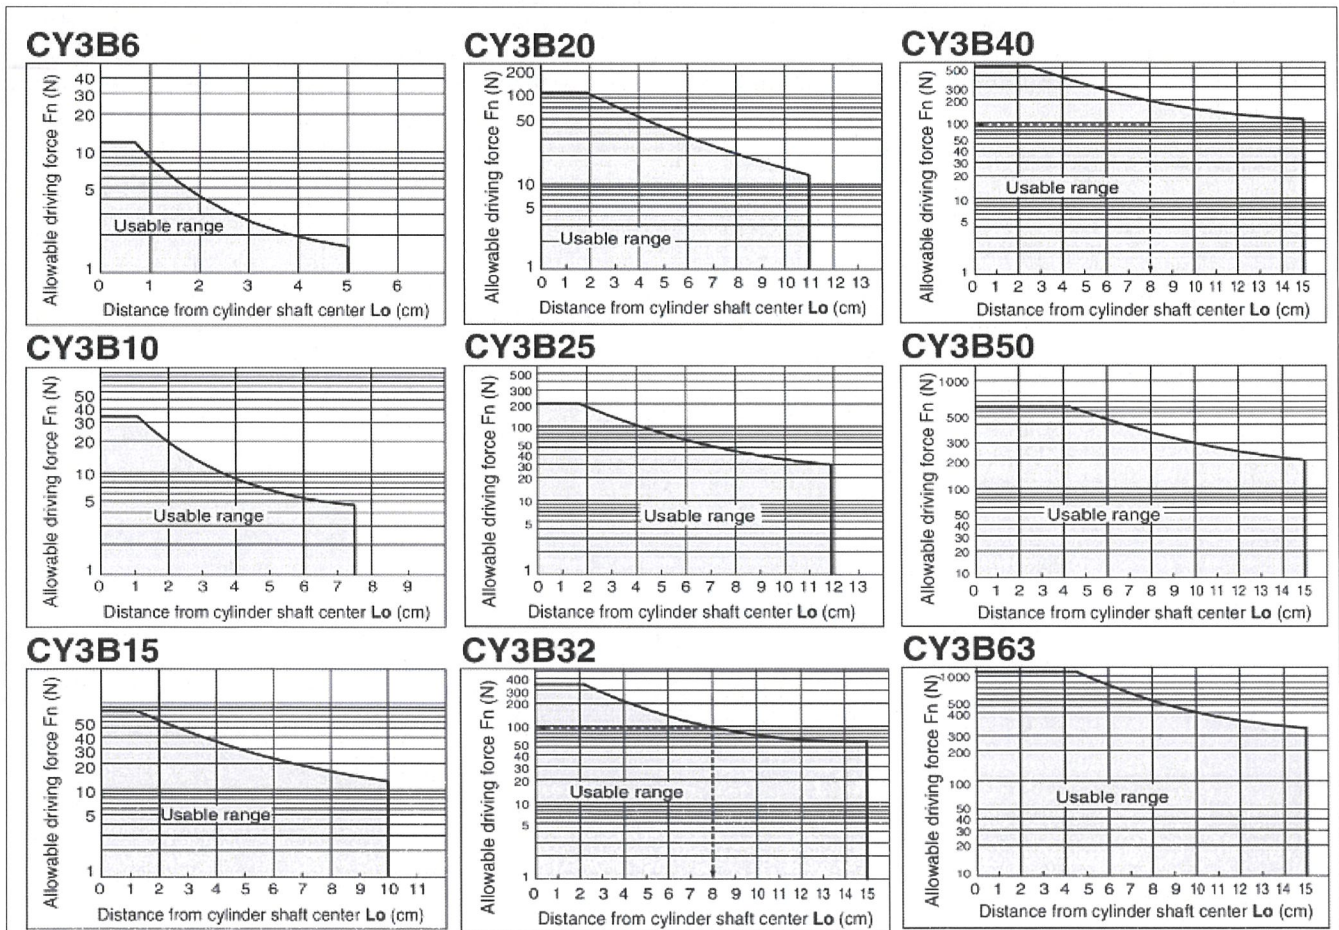

Fig. 12 Relationship between the distance from the center of axis of the cylinder and the allowable driving force
3. Select the bore size from L_o and F_n , based on Fig.12.
Given a load drive resisting force of $F_n = 100(N)$ and a distance from the cylinder shaft center to the load application point of $L_o = 8 cm$, find the intersection point by extending upward from the horizontal axis of Fig.12 where the distance from the shaft center is 8 cm, and then extending to the side, find the allowable driving force on the vertical axis.